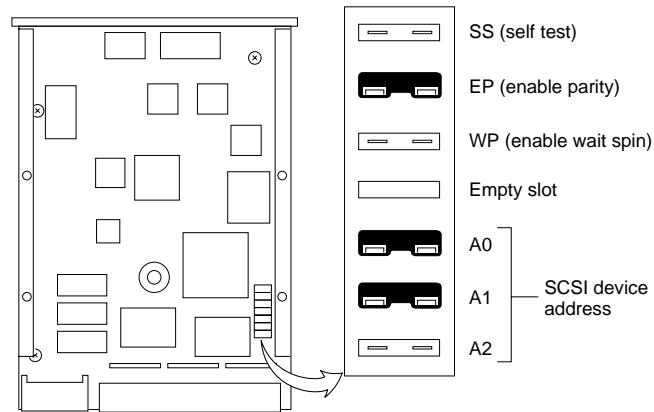
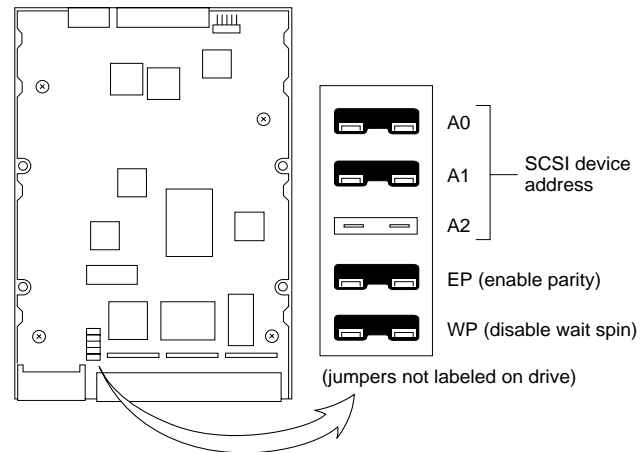

Figure 4-10 Hard Disk Drive with 6 Jumpers—Jumper Setting for Drive 1
Figure 4-11 Hard Disk Drive with 5 Jumpers—Jumper Setting for Drive 1
Note – The markings for the jumpers on the drive shown in Figures 4-10 and 4-12 are etched or labeled onto the drive's controller board. The jumpers on the drive shown in Figures 4-11 and 4-13 are not marked on the drive's controller board.
- 3. Inspect the jumper settings. Compare them to the settings shown in Figure 4-10 or 4-12.**
- 4. Inspect the jumper settings. Compare them to the settings shown in Figure 4-11 or 4-13.**